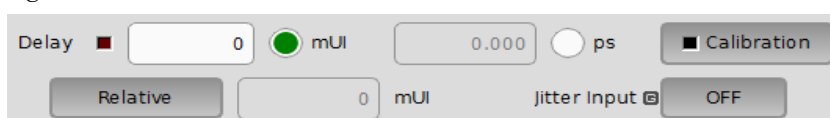

Figure 5.11.7-1 Clock Delay Setting Items
- When executing jitter tolerance test, etc. by inputting jitter-modulated clock, set **Jitter Input** of Delay to **ON** to avoid malfunction of Delay caused by excess jitter modulation. (Refer to Figure 5.11.7-1.) When using the MU181000A/B (with Option 001 Jitter Modulation) or MU181500B, set **Jitter Input** of Delay to **ON**, and then set **Jitter Modulation** of the MU181000A/B or MU181500B to **ON**.